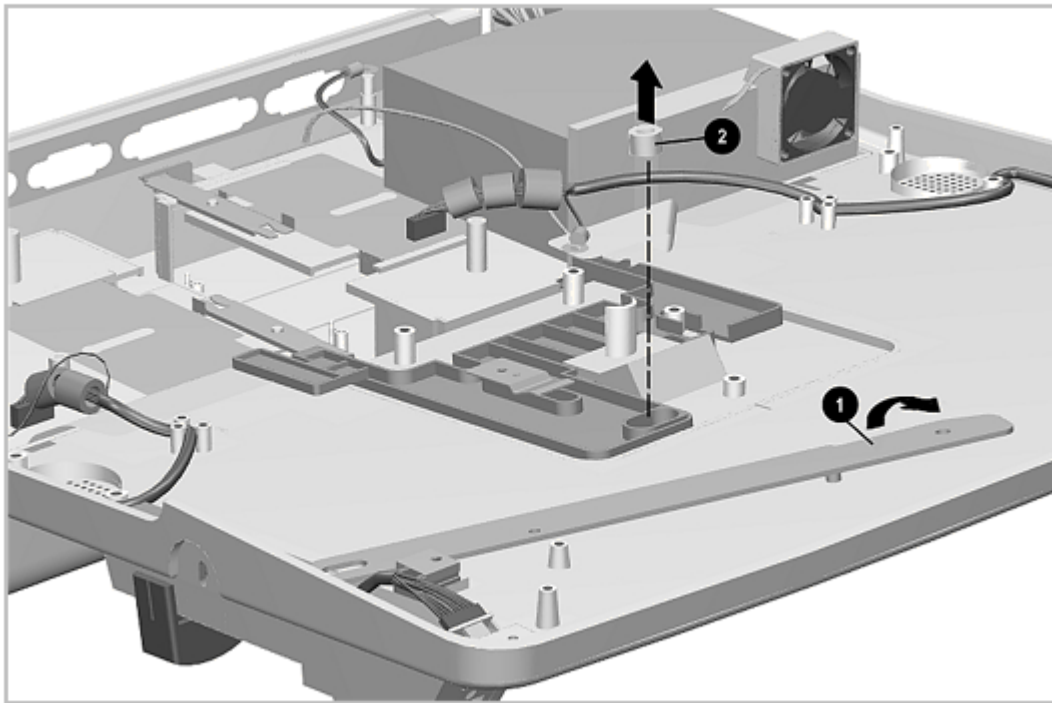

Figure 7-35. Removing the Docking Bar and Bushing
5. Lift the docking bar [1] and its bushing [2] out of the assembly (Figure 7-35).